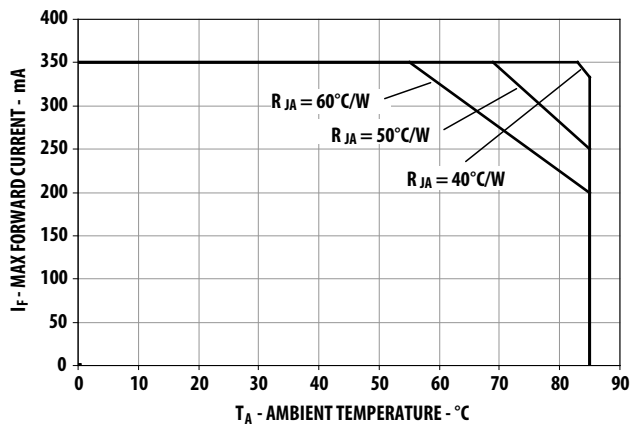

Figure 5. Maximum forward current vs. ambient temperature for AllnGaP
1. DC forward current – derate linearly based on Figure 5 for AllnGaP & Figure 11 for InGaN.